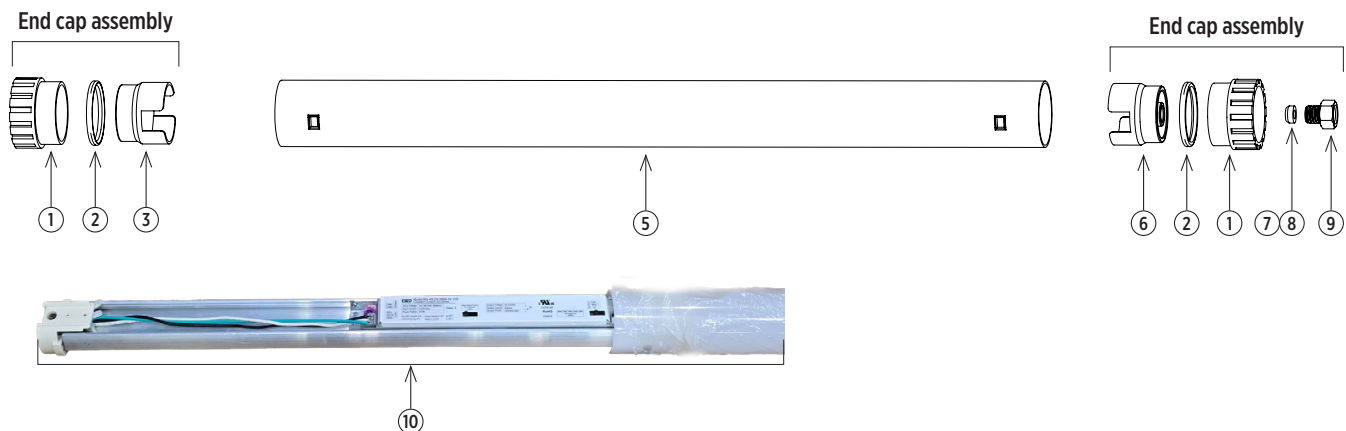

Figure 2: Surface Mount Bracket Dimensions
2. Refer to the mounting bracket dimensions to prepare the attachment points in your installation location. Refer to Figure 2 & 3. Note: fasteners for mounting are not provided.